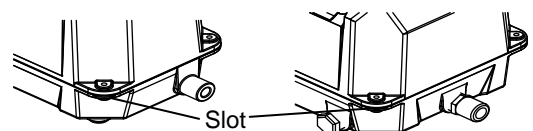

Fig 3
- Use a screwdriver to pry the overall cover open when necessary. (Ref.: Fig 3)